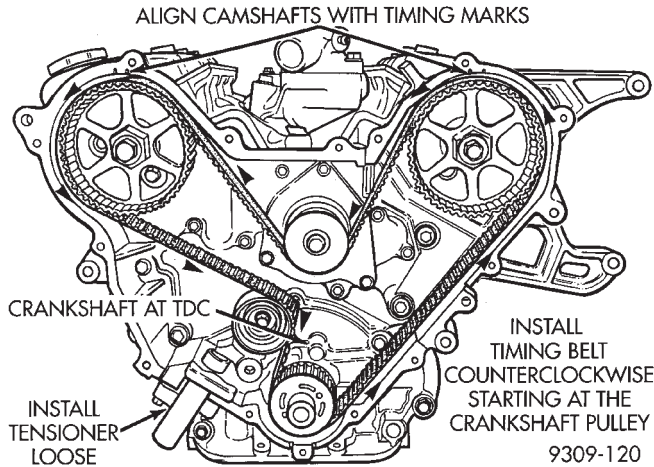

Fig. 69 Timing Belt Installation
(1) Align the crankshaft sprocket with the TDC mark on oil pump cover (Fig. 69).
(3) Install the timing belt starting at the crankshaft sprocket going in a counterclockwise direction (Fig. 69). Install the belt around the last sprocket. Maintain tension on the belt as it is positioned around the tensioner pulley.
(4) Holding the tensioner pulley against the belt, install the tensioner into the housing and tighten to 28 N·m (250 in. lbs.). Each camshaft sprockets mark should still fall between the cover marks.
(5) When tensioner is in place pull retaining pin to allow the tensioner to extend to the pulley bracket.
(6) Rotate crankshaft sprocket 2 revolutions and check the timing marks on the camshafts and crankshaft. The marks should line up within their respective locations (Fig. 69). If marks do not line up repeat procedure.